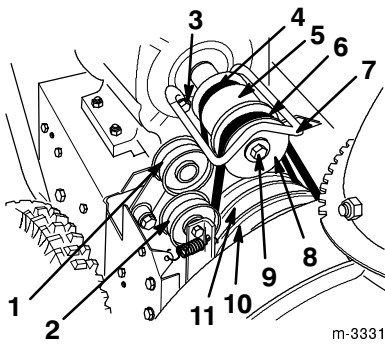

Figure 31
When the traction belt (Fig. 31) becomes worn, oil-soaked, or otherwise damaged, replace the belt. You can purchase a new belt from your Authorized Service Dealer.
5. Remove two screws, two washers, and two lock washers that secure the belt guide (Fig. 31).
6. Remove the engine crankshaft screw, lock washer, and washer (Fig. 31).
7. Separate and remove the engine pulley sheave (Fig. 31).
9. Remove the engine pulley (Fig. 31).
10. Remove the traction belt from the traction pulley and the engine crankshaft (Fig. 31).
11. Pull the traction idler pulley outward and install a new traction belt (Fig. 31).
13. Pull the idler pulley outward and loop the auger/impeller drive belt in front of the engine pulley, making sure that the belt is on the inside of the idler pulley (Fig. 31).
When the auger/impeller drive belt (Fig. 31) becomes worn, oil-soaked, or otherwise damaged, replace the belt.
8. Remove the auger/impeller drive belt (Fig. 31).
9. Pull the idler pulley outward and install a new belt around the large auger/impeller pulley (Fig. 31).
10. Loop the belt in front of the engine pulley, making sure that the belt is on the inside of the idler pulley (Fig. 31).